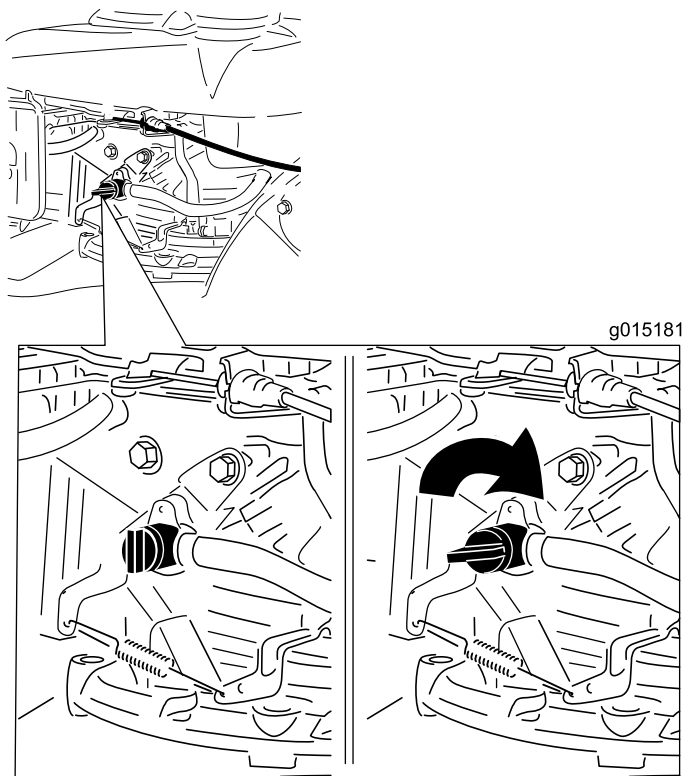

Figure 19
2. Turn the fuel valve lever to the On position (Figure 19).